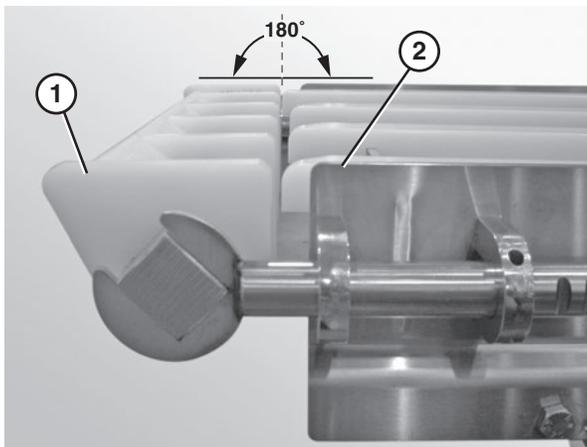

Figure 22
- Ensure that the nose bar pucks (Figure 22, item 1) are in line with the conveyor frame (Figure 22, item 2).